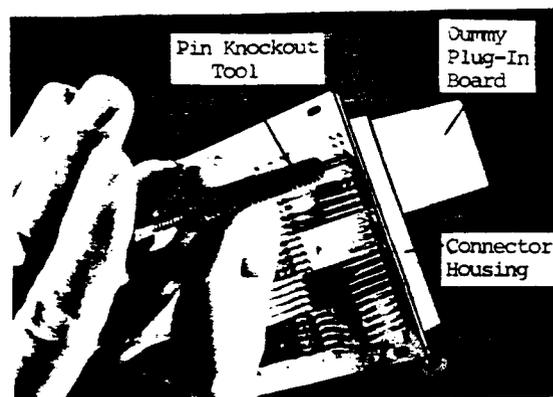

FIGURE 5
4.22 Push the dummy plug-in board into the connector per Fig. 5. The dummy board is made from 1/16" thick fiberglass or phenol fabric material.
4.241 If the defective pin(s) is broken off flush with boss, dislodge it from the connector using pin knockout tool R-4846, Det 10. The tool head should encircle the housing boss and seat on the metal backplane. Strike the plunger sharply but not excessively to dislodge the pin. See Fig. 5.